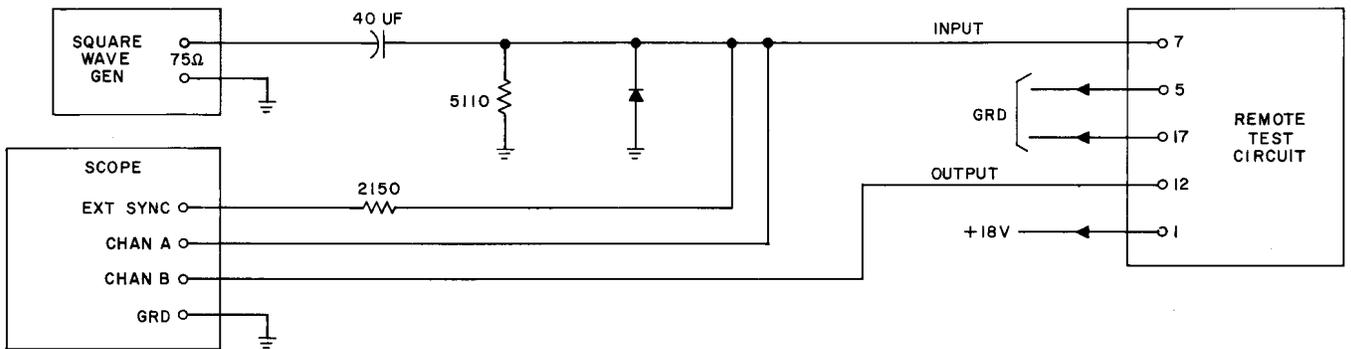
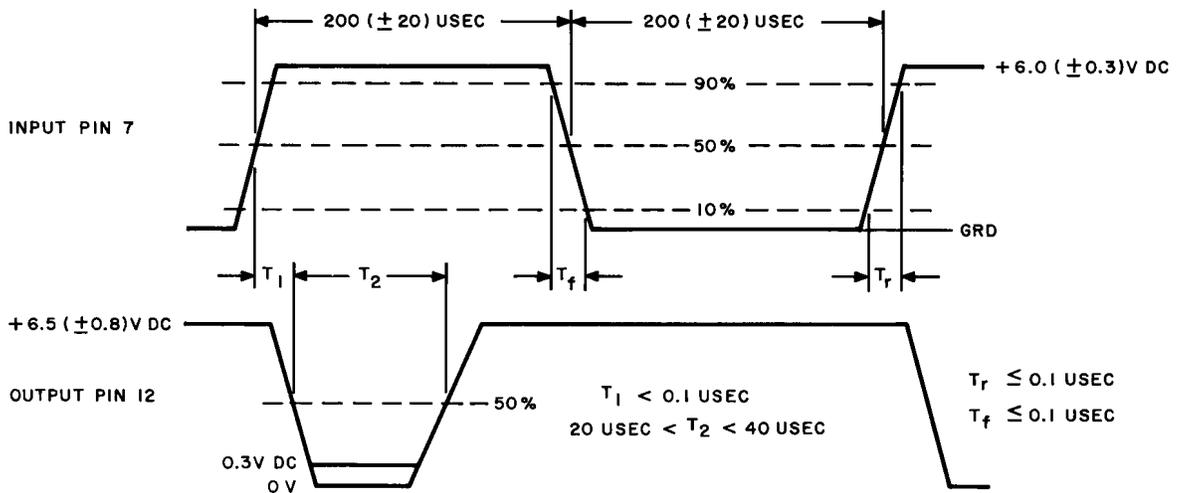

Fig. 57A—Remote Test Circuit Pack Test Circuit
Fig. 58A—Remote Test Circuit Pack Test
- (1) With ground connected to terminals 5 and 17 and +18.0 (± 0.5) Vdc connected to terminal 1, connect the circuit pack to the suggested test circuit shown in Fig. 57A. Set the frequency of the square-wave generator to 2.5 kHz (± 10 percent).
- (2) Set the scope EXT SYNC TRIGGER selector to the (+) positive position.
- (3) The input waveform at terminal 7 shall be as specified in Fig. 58A.
- (4) The output waveform at terminal 12 shall be as specified in Fig. 58A.